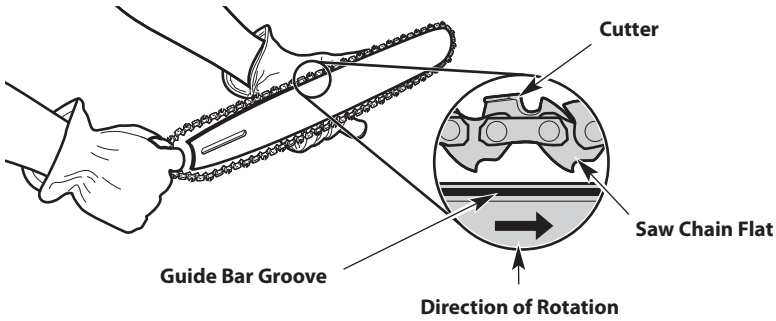
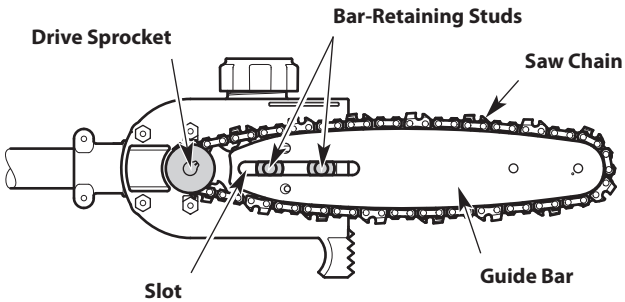

Fig. 16
Fig. 17
3. Fit the saw chain into the guide bar groove (Fig. 16). Make sure the cutters point in the correct direction of rotation (Fig. 16). Keep a loop of saw chain at the back end of the guide bar (Fig. 16).
4. Hold the saw chain and guide bar together in position over the unit. Loop the saw chain around the drive sprocket and install the guide bar onto the bar-retaining studs (Fig. 17). Make sure the guide bar is flush against the mounting surface. Make sure the flats on the saw chain are in the grooves on the drive sprocket (Fig. 16 & Fig. 17).
6. Install the bar cover. Tighten the screw and two (2) bar-retaining nuts.